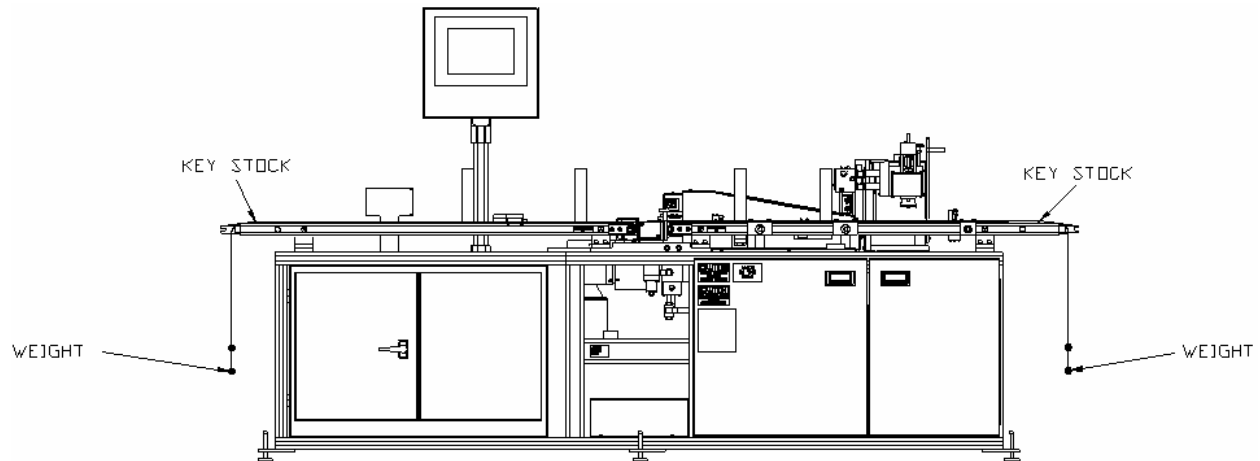

Figure 4
3. Place two small pieces of key stock under the fishing line as shown in Figure 4.